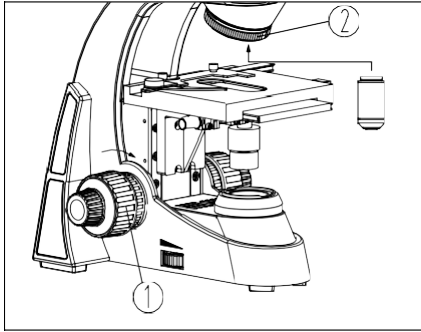

Fig.3
1. Rotate the coarse focusing knob ① to lower the stage to a suitable location (See Fig.3).